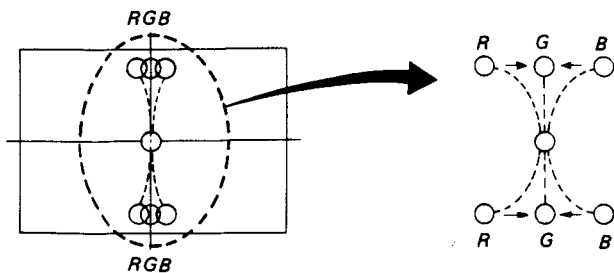

Fig. 1-19.
- Adjust RV31 (UNDER SCAN Y. BOW) on the DB board to coincide with the R, G and B dots as shown in Fig. 1-19.